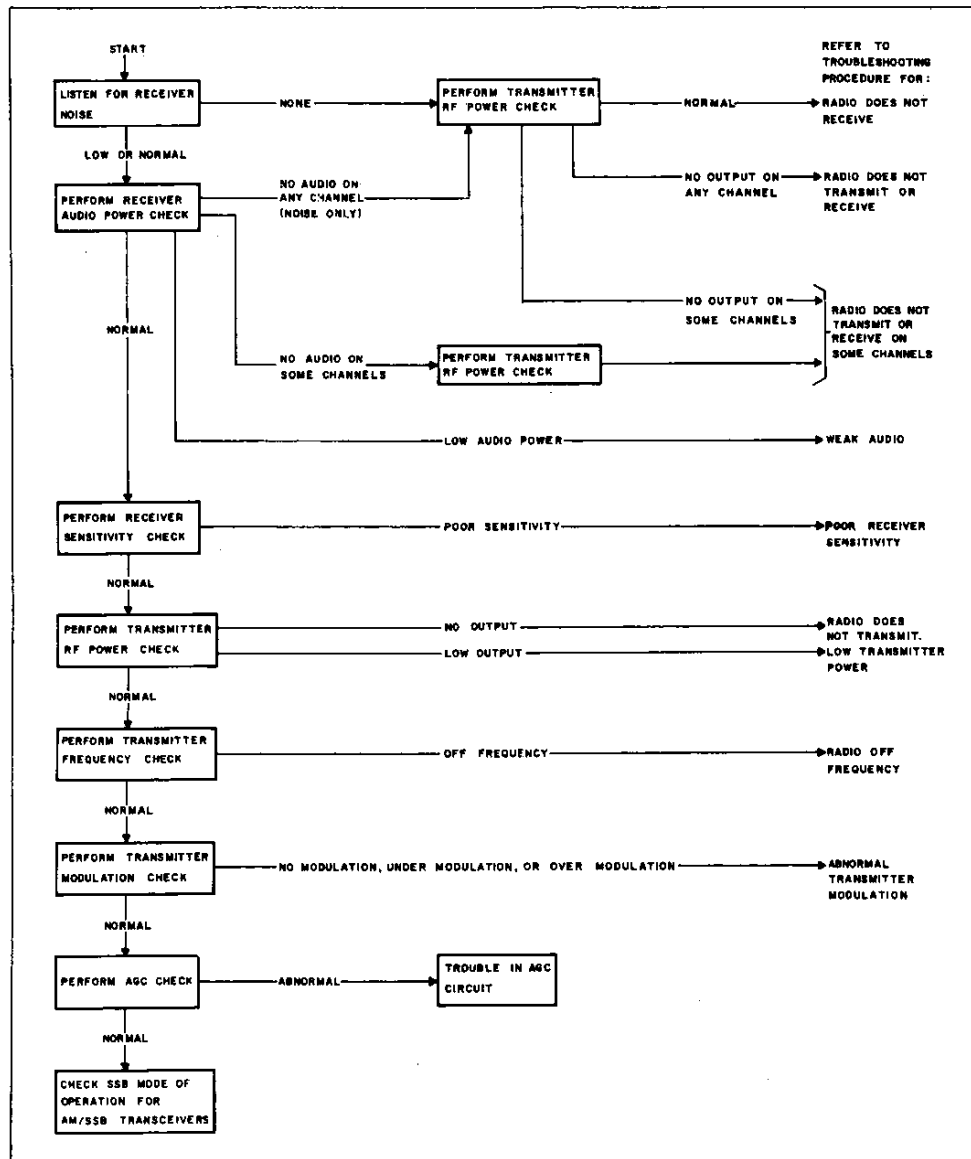

Fig. 24. Service Bench Diagnostic Check, AM Mode
6. Perform as many steps of Fig. 24 as is required to be directed to a troubleshooting procedure. Use the referenced troubleshooting procedure to isolate and correct any malfunction.
7. If troubleshooting and repair are required, recheck transceiver operation by repeating the steps of Fig. 24, starting at the beginning. Repeat the steps as many times as required until the test results end with "Check SSB mode of operation for AM/SSB transceivers".